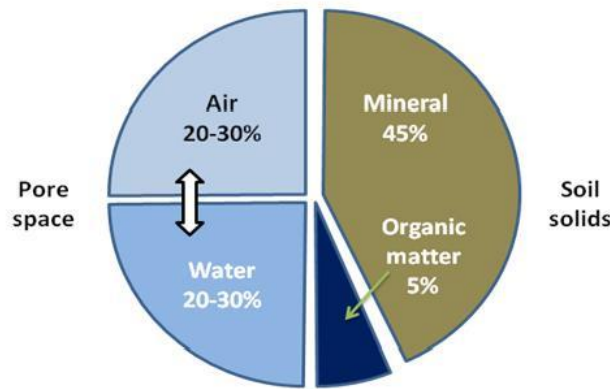

Fig.2. Composition of ideal surface soil
- The mineral soil consists of four major components/phases: mineral material and organic matter (solid), water (liquid) and air (gases). In an ideal surface soils these components are observed in amounts (by volume, Fig.2) as follows,